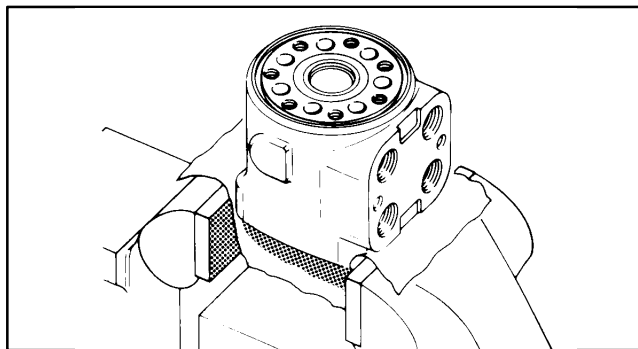

Figure 44
17. Clamp housing in vise, as shown in Fig. 44. Clamp lightly on edges of mounting area. Do not over-tighten jaws.